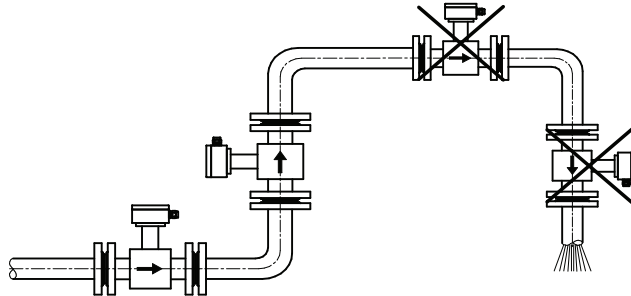

Figure 2.7
1. For sensors installed near vertical sections of pipe, the FM100 can be either in the horizontal section upstream of the vertical, or on the upstream vertical (see Figure 2.7). To avoid airlock, it must not be installed on the raised section of pipe, nor on the downstream vertical.
NOTE: For sensors installed on vertical pipe, nominal flow should be upward through the FM100 (see Figure 2.7).